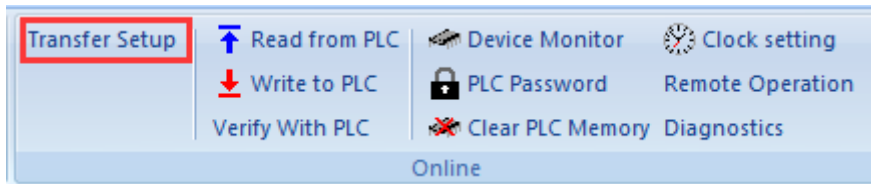

Figure 5-1
- 2) Click [Transfer Setup] in [Online] toolbar, as Figure 5-1 shows;